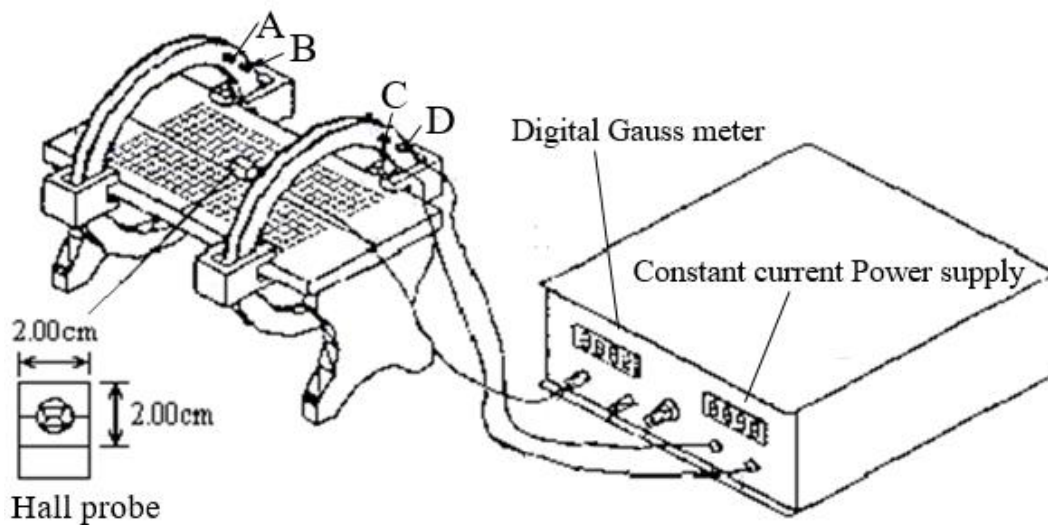

Fig. 4 Experimental Arrangement
Constant current Power supply DC 50-200 mA, Digital Gauss meter with Axial Hall Probe (Transducer) 0-2.000mT. Current carrying coil with 500 turns ( $N$ ), Diameter 20.00 mm, support base and stand, and connecting leads, as shown in fig.4.
2. Connect the DC supply, first circular coil in series as shown in the figure 4. Get the circuit checked by T.A. before switching on the power supply.
7. Third measurement is for Helmholtz coil setup. Make connections as in Figure 4.